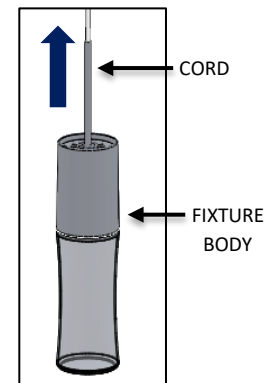

FIG. 25 - FIXTURE INSTALLATION
2. Raise the BAMBOO FIXTURE as shown below in FIG. 25 and pass the cord through MOUNTING BRACKET. Adjust fixture drop to desired height.